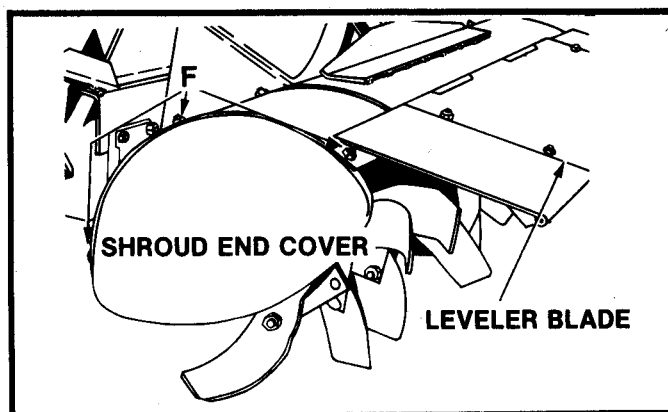

FIGURE 15
The leveler blades, Figure 15, should be lowered as shown when tilling to produce a finer tilth and more level seed bed. When
6. Attach the shroud end cover to the shroud at "F", Figure 15, with the three 5/16" x 1/2" carriage bolts and locknuts previously used.